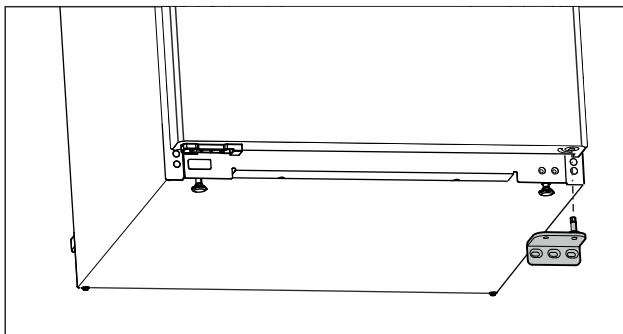

Fig. 11
- Remove the swap bearing block downwards. (see Fig. 11)